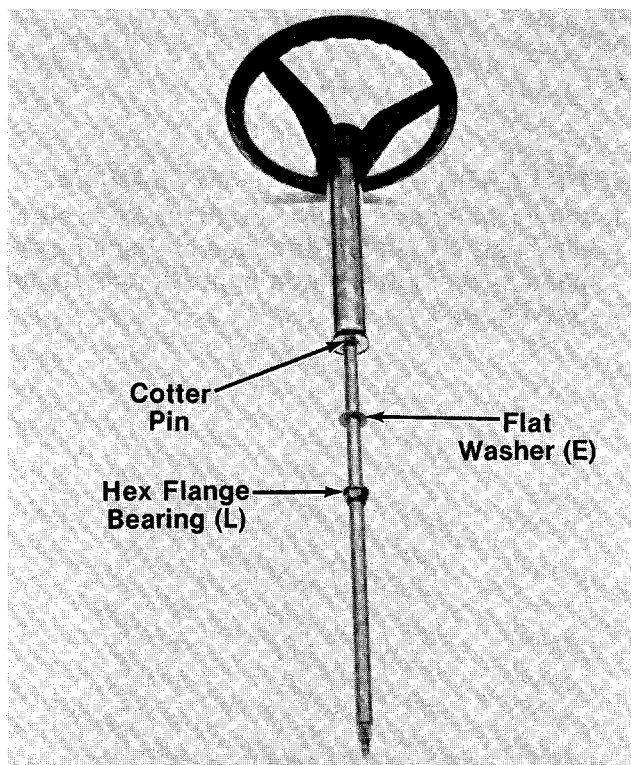

FIGURE 6.
7. Slip flat washer (E) (1¼" diameter) on the steering shaft immediately below the cotter pin. Place one plastic hex flange bearing (L), flat side up, below the washer. See figure 6.